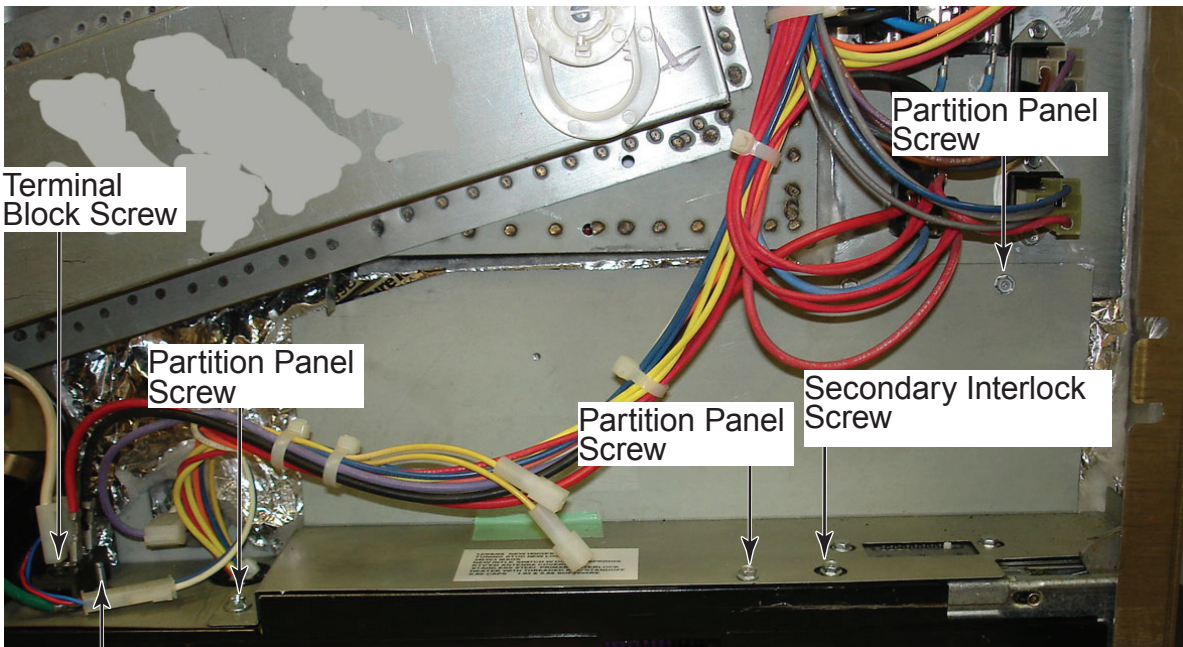

Figure 7
- a) Remove 3 screws from LH partition panel and remove panel - see figure 7.